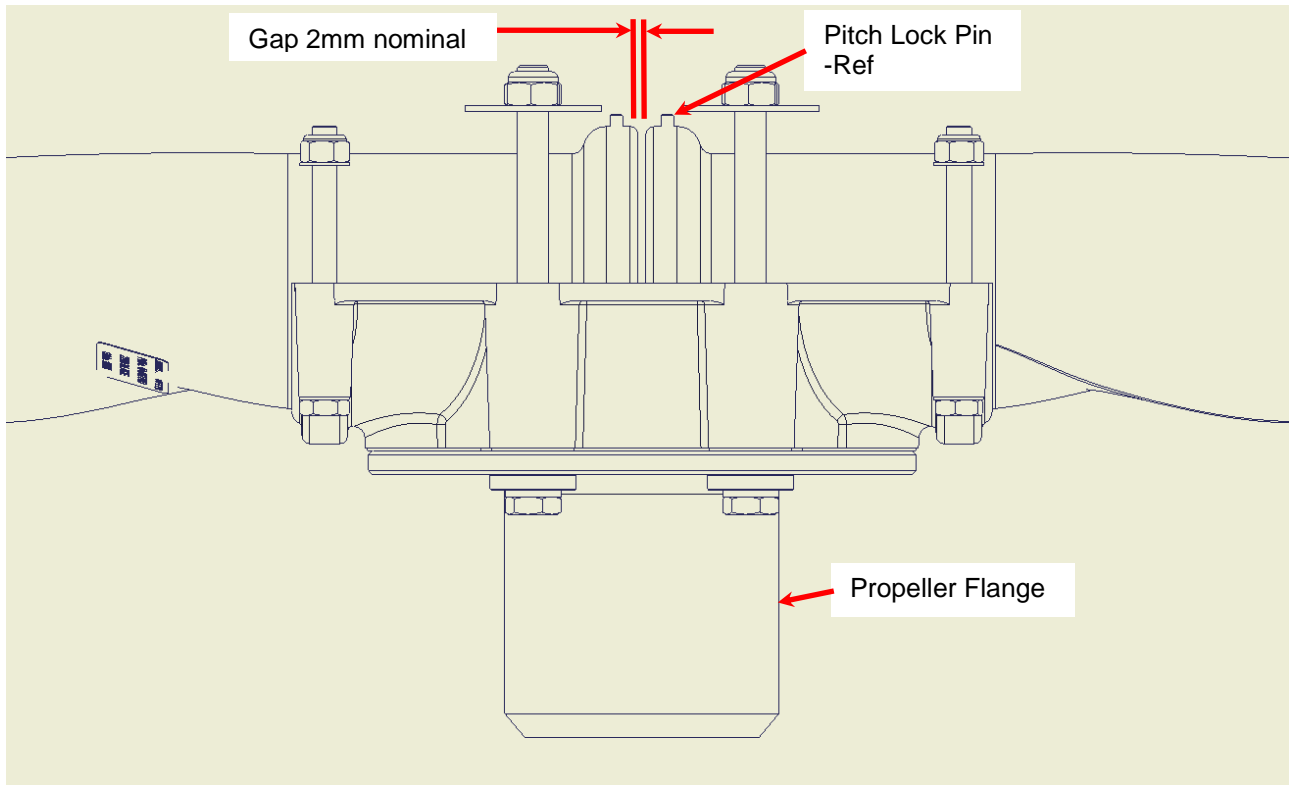

Figure 4 – Blade Assy Detail (View from beside hub, front hub not shown)
2. Fit the two blades to the hub. By design there is a small space between the inner ends of the two blades (Figure 4). Care must be taken to ensure that the blades are positioned with their retaining shoulders hard against the matching shoulders of the hub (i.e. with the gap between blades as large as possible). Failure to achieve this can result in one blade being positioned differently to the other, resulting in an out of balance condition and increased vibration.